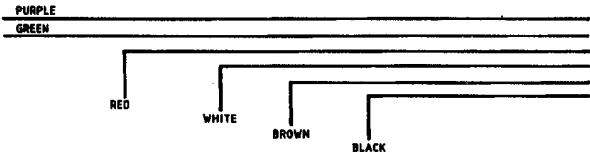

Figure 3 — Wiring Harness
- g. Using electrical cables, items 4 to 9, manufacture a wiring harness as per Fig 3.